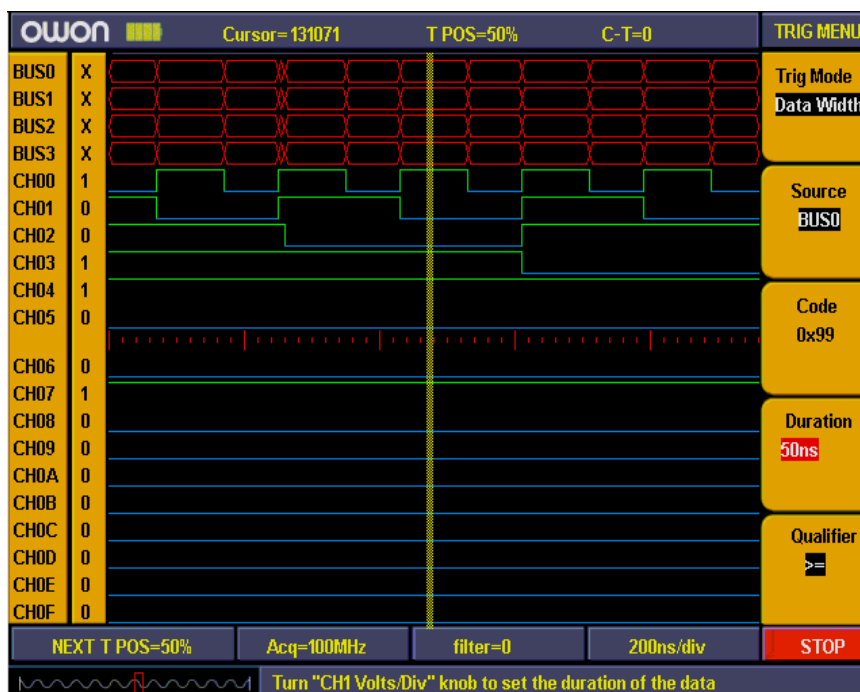

Fig.5-65: Data width trigger
- Then duration trigger setting finished (refer to **Fig.5-65**) and ready for data acquisition.